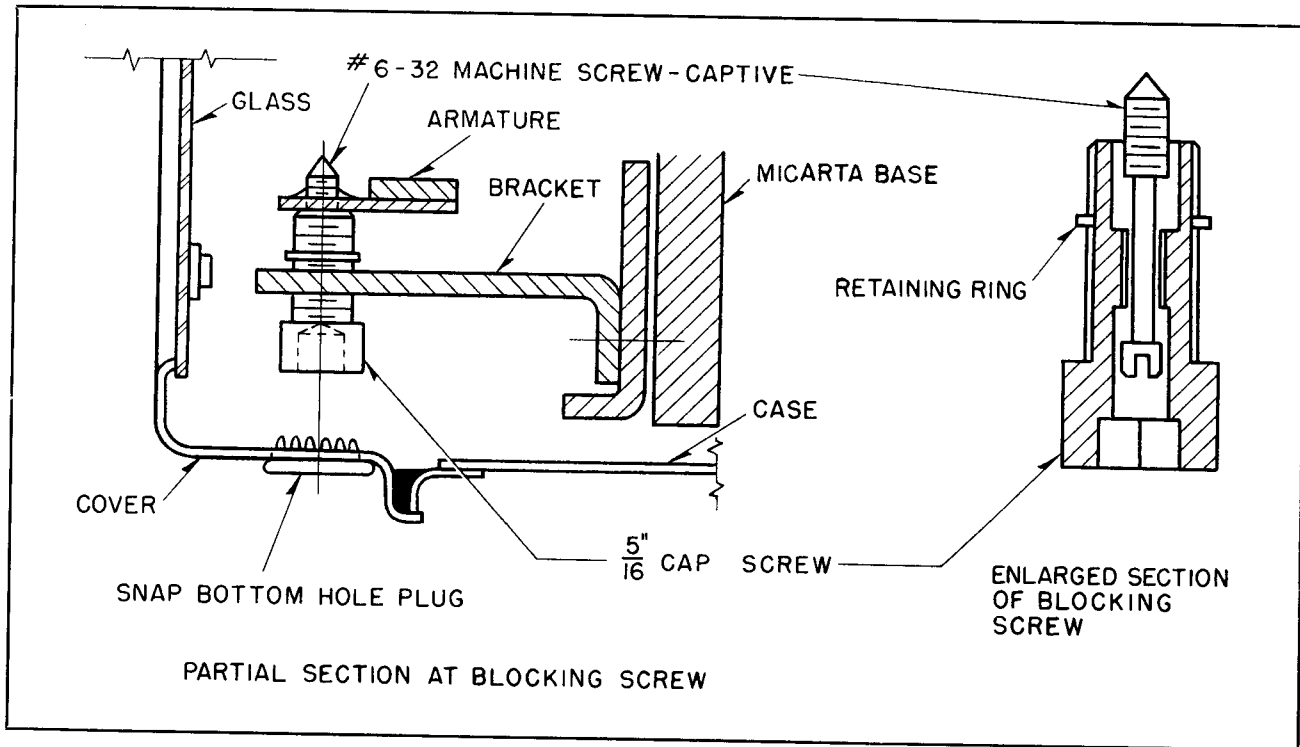

FIG. 7. Details of Armature Blocking
**To Block Armature:** See Fig. 7.
**To Unblock Armature:** See Fig. 7.